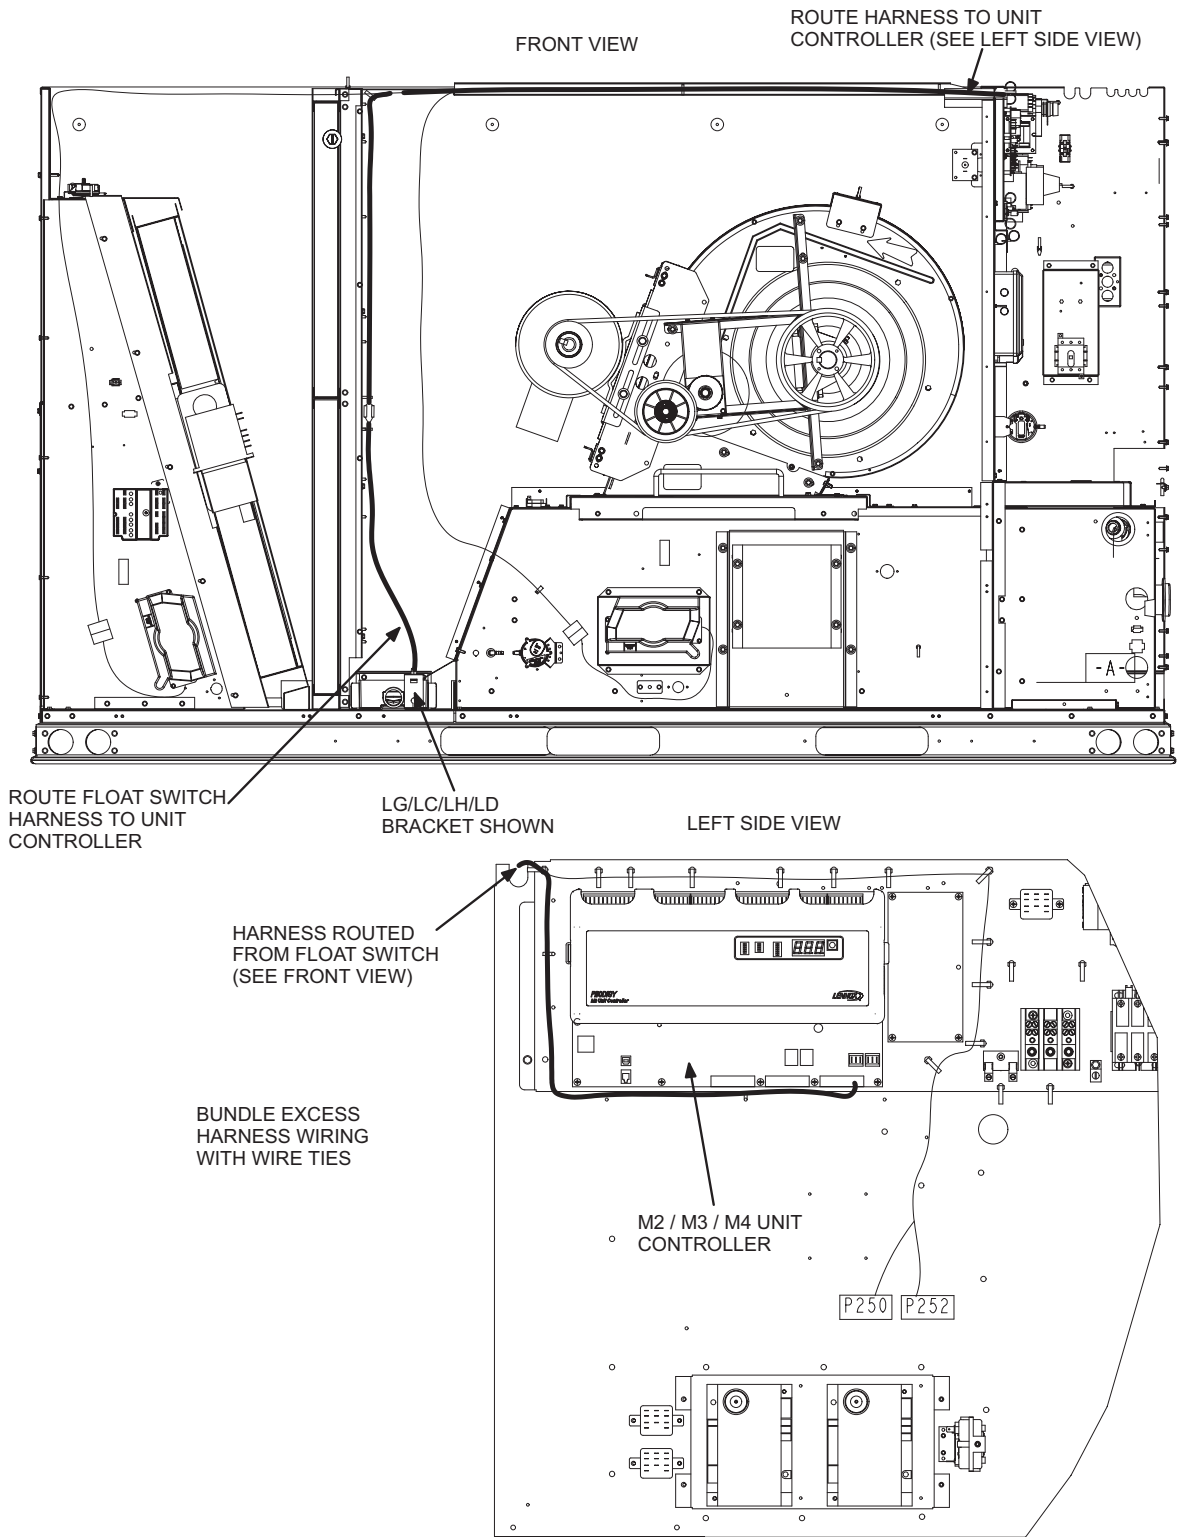
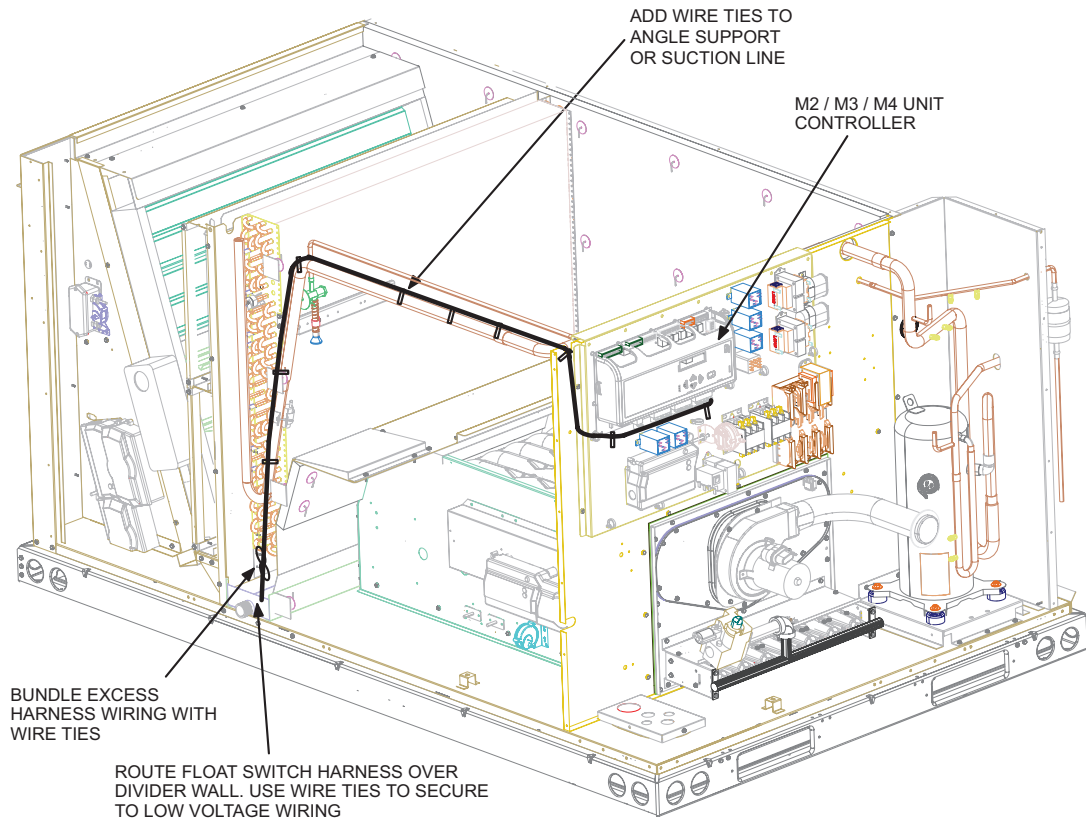
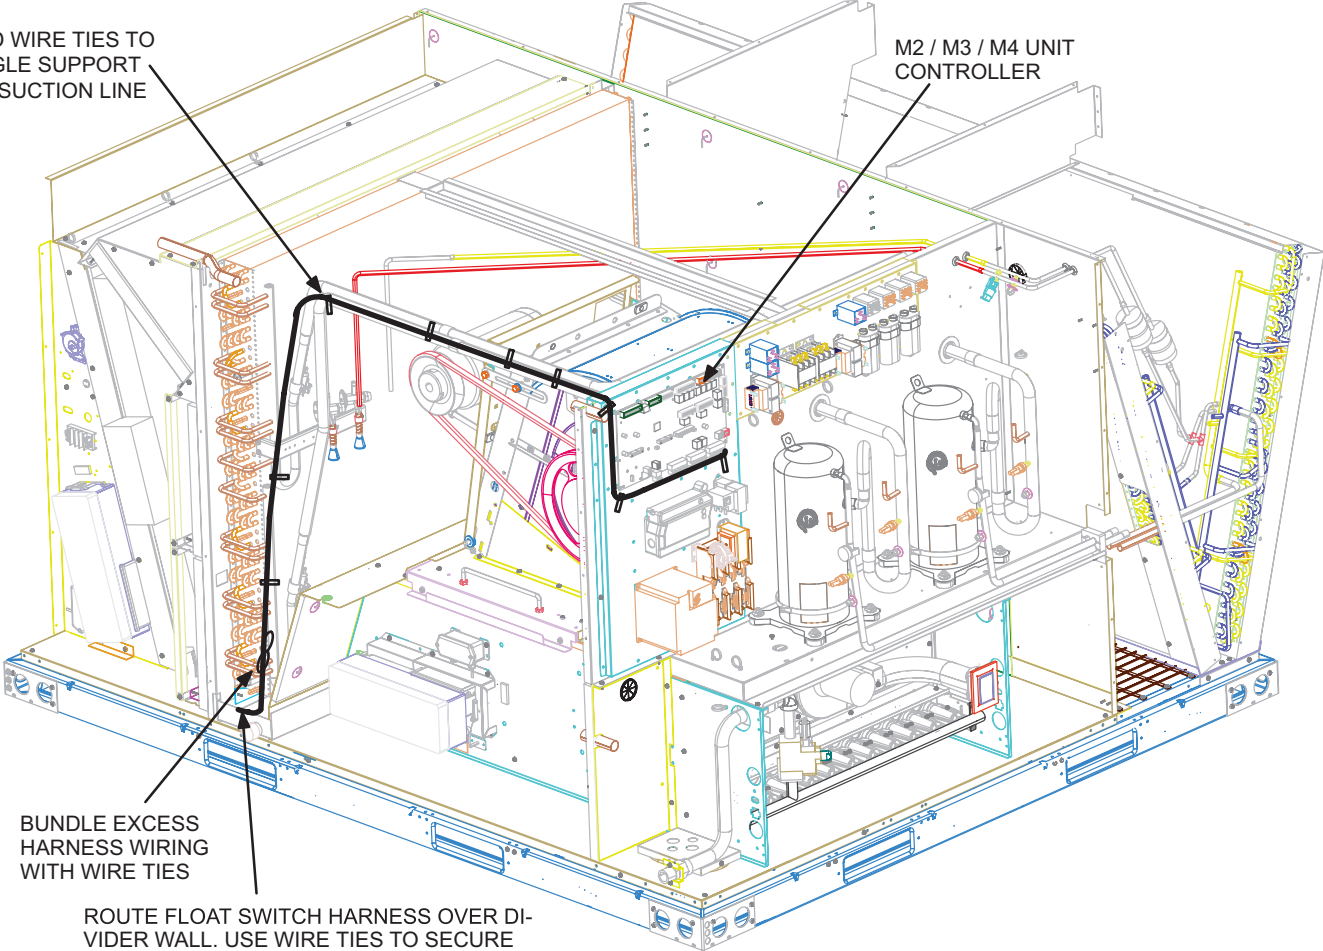

FIGURE 10
FIGURE 11
FIGURE 12
- 5 - Route the other end of the harness to the float switch and secure with wire ties. See FIGURE 8 for LG/LC/LH/LD 072 units, FIGURE 9 for LG/LC/LH/LD 092-150 units, FIGURE 10 for LG/LC/LH/LD 156-360 & SG/SC 240, FIGURE 11 for SG/SC 036/060 and FIGURE 12 for SG/SC 120 units.